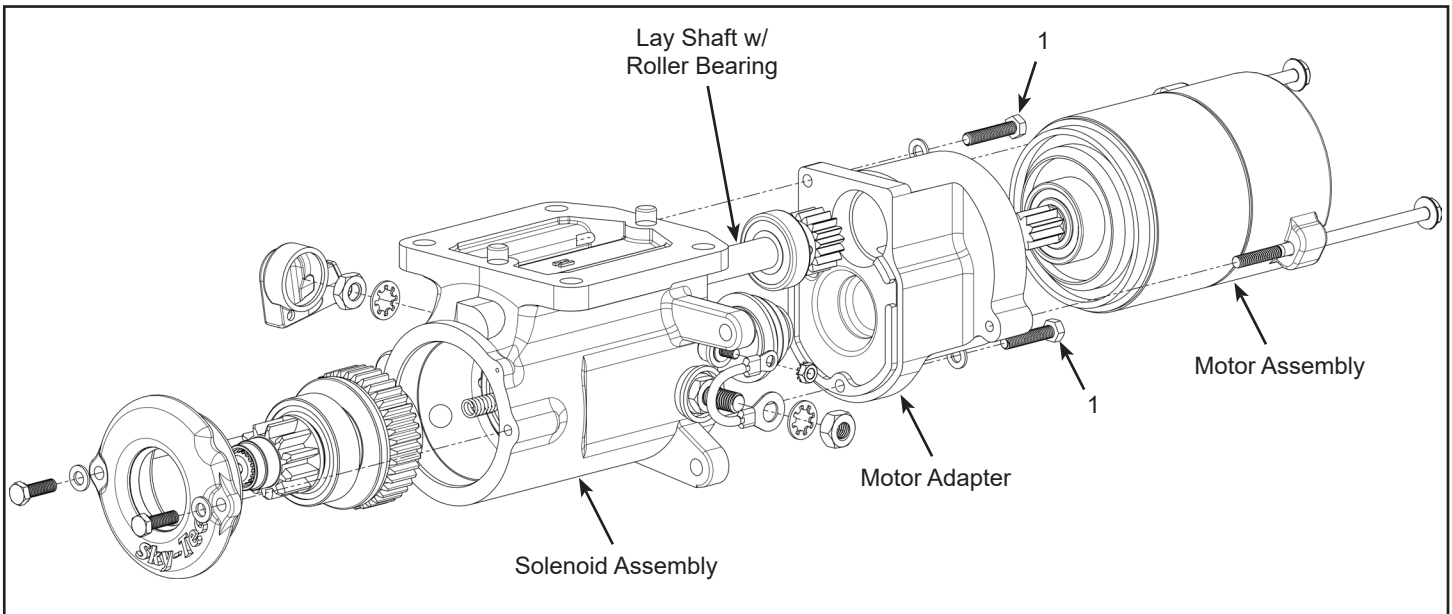

Figure 1 - Typical Starter P/N 149NL/EC Assembly
- (1) **Option 1:** Starter may remain in-service. Replacement of the starter is not required; the standard warranty for the starter remains in effect up to 2700 engine hours. Continue to 3.C., Return to Service.
- (2) **Option 2:** Remove the starter in accordance with the applicable engine manufacturer's maintenance manual.
- (a) Remove the two machine screws (Figure 1, ITM# 1, 5/16" hex) from the starter assembly. Retain machine screws for assembly.
- (b) Separate the solenoid assembly from the motor adapter, see Figure 1.